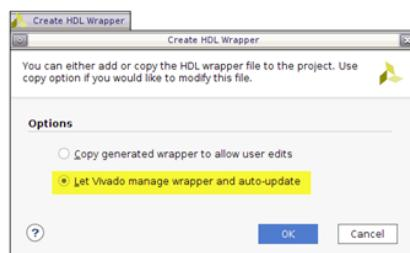

Figure 28: Create HDL Wrapper options
- Select "Let Vivado manage wrapper and auto-update," (Figure 28) press OK.